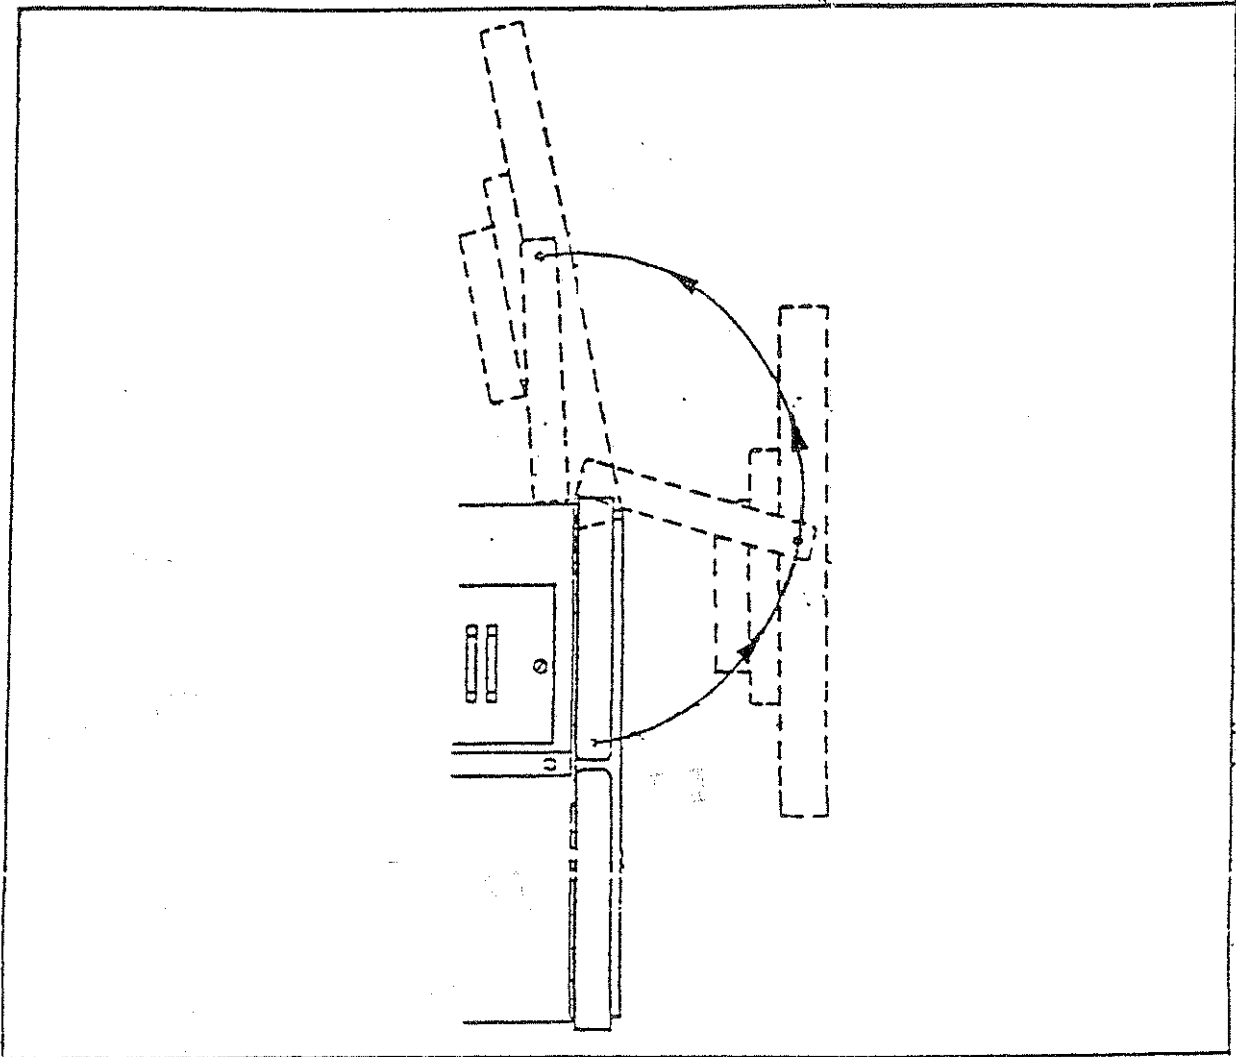

Figure 2-1: Door Operation
4. Open the furnace door by grasping the handle and extending the thumb to the surface of the door for balance and control. Pull the door away from the furnace and upwards in one smooth, continuous motion (see Figure 2-1). The door is closed in the same way, moving in the opposite direction.